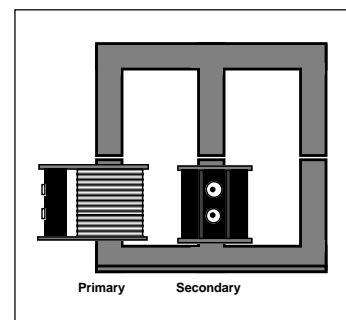

Figure 1
1. Set up the coils and core as shown in Figure 1. In the diagram, the coil to the left will be referred to as the primary coil, and the center one will be the secondary coil.